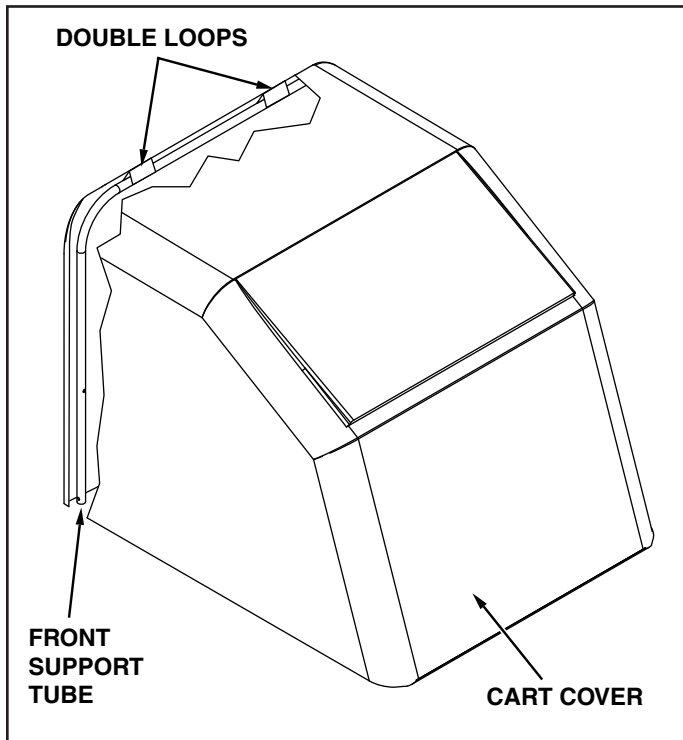

FIGURE 19
- Slide the front support tube through the double loops located near the front of the cart cover. See figure 19.